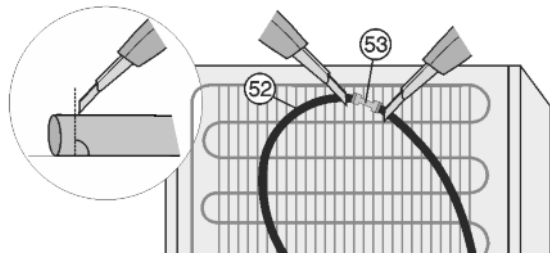

Fig. 23*
► Cut open the water hose Fig. 23 (52) behind the appliance both in front of and behind the connector Fig. 23 (53) (90° to direction of the hose).*